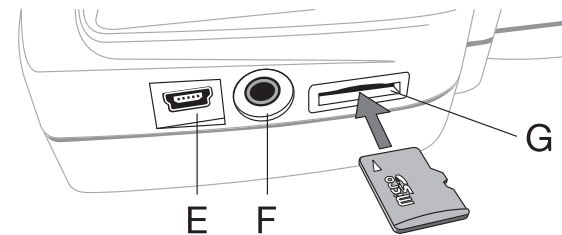

Fig. 3
- Refer to Figure 3 and insert the Micro SD card in socket G. (8 Gb Micro SD card is provided with instrument). **Do not** remove or refit the Micro SD card if the instrument is switched **ON**. **Power OFF** the instrument before removing or refitting the Micro SD card. Failure to carry out this advice will damage the instrument.